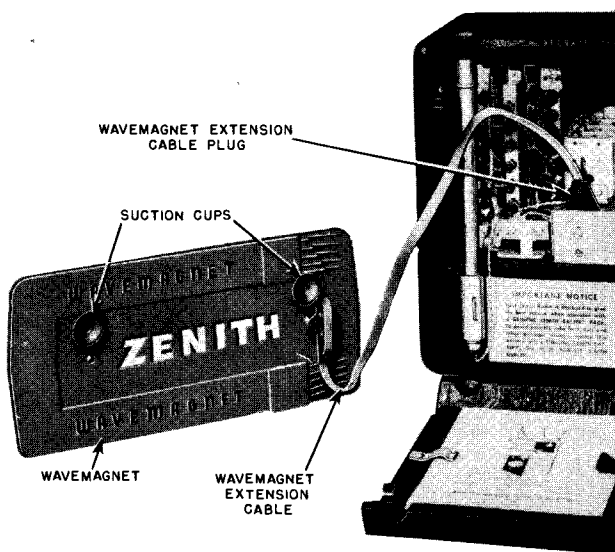

Figure 9.—Rear View of Receiver with the Wavemagnet Extension Cable Connected.
- C. Snap one end of the Wavemagnet extension cord on the broadcast Wavemagnet. Remove the plug already in the Wavemagnet socket, and place the plug on the other end of the Wavemagnet extension cord into this socket. (See Figure 9.) Snap the suction cups on the two remaining Wavemagnet snap buttons.